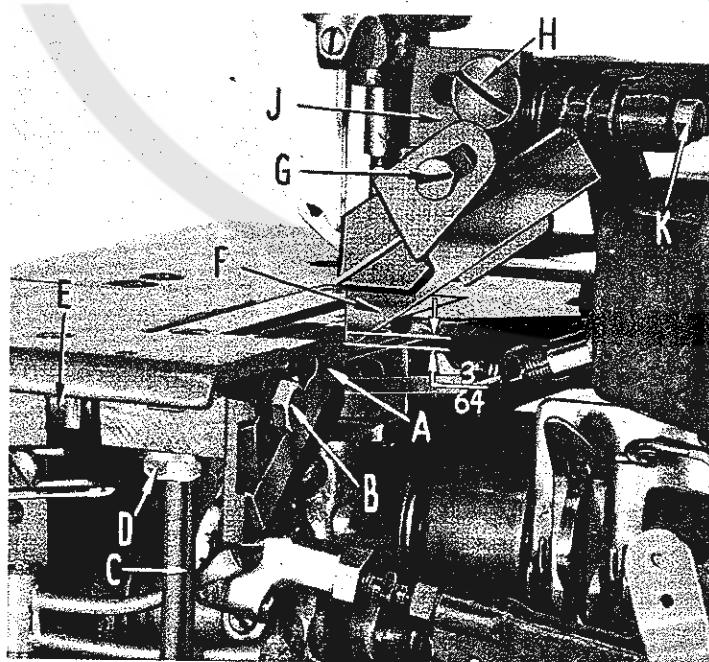

Fig. 12
Turn the handwheel in operating direction until the upper knife arm is in its lowest position. The cutting edge of the upper knife (F, Fig. 12) should overlap the cutting edge of the lower knife by about $\frac{1}{64}$ inch. Loosen clamp screw (G) to adjust upper knife. Move knife to the left to lower it or to the right to raise it. Tighten clamp screw. To set the spring tension on the upper knife, loosen screw (H), move knife holder block (J) to the left, and while holding it in this position, push knife guide collar shaft (K) to the right to increase spring tension on upper knife and tighten screw (H). Turn handwheel in operating direction until the upper knife is at its highest point of travel, and at this point, the pilot of the upper knife should overlap the lower knife about $\frac{3}{64}$ inch (Fig. 12).